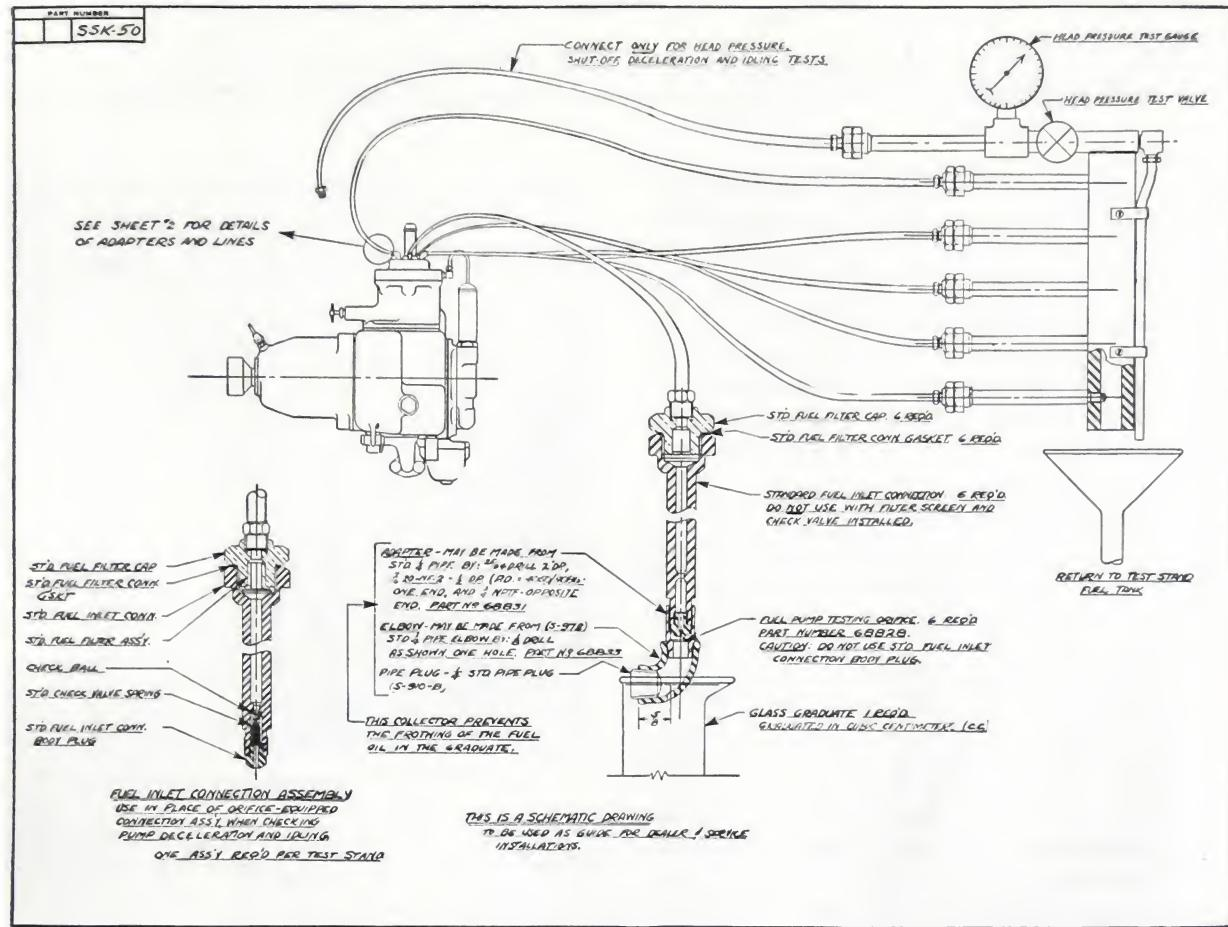

Fig. 5-385. Fuel pump test stand (connection assembly)
K. Fuel lines and connections as shown in Fig. 5-385 and Fig. 5-386.